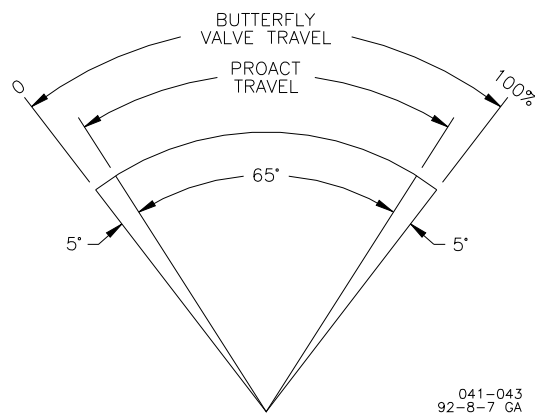

Figure 3-2. Use ProAct Travel Stops for Carburetors
**Gas Engine Stops**—Butterfly valves in carburetors will often bind if rotated too far toward minimum or maximum. For this reason, the stops in the actuator should be used at both minimum and maximum positions. Note that the stops will allow up to 3 degrees of additional rotation in both directions during impact (see Figure 3-2).